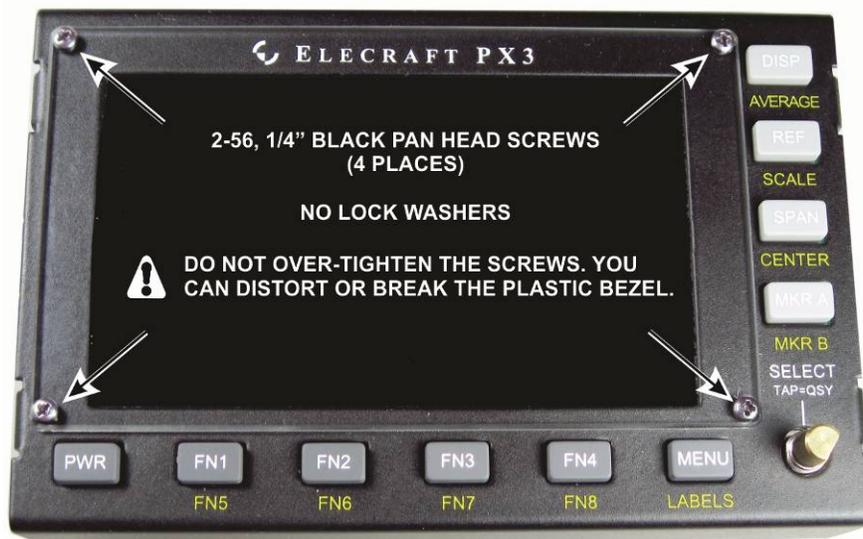
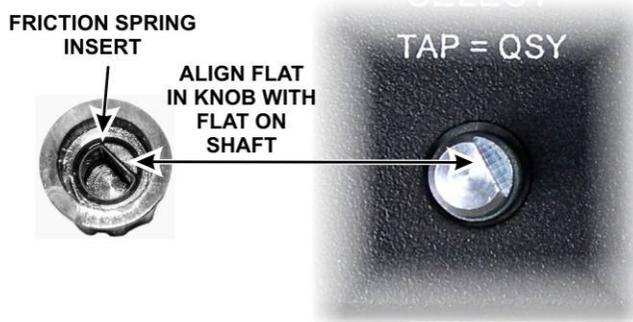

Figure 30. Front Panel PC Board and Bezel Mounted on Front Panel.
Figure 31. Installing the Knob.
□ Hold the front panel board face up so the LCD does not become dislodged and place the front panel and bezel over it as shown in Figure 30. Insert the front panel board from the back of the sheet metal, angling it as needed to fit past the narrow part of the panel. Secure the bezel as shown, threading the screws into the standoffs you installed earlier. **Do not over-tighten the screws. You can distort or break the bezel.**
□ Check to ensure the knob has its spring insert in place, then press it onto the shaft. Be sure the flat on the shaft is aligned with the flat surface in the knob (see Figure 31). The control has a built-in switch so do not be surprised to hear a click when you press the knob onto the shaft. The knob will stand above the surface of the front panel to allow room for the knob to move when operating the switch. Also, some side-to-side movement of the knob is normal in a control of this type with a built in switch.
To remove the front panel board and gain access to the LCD, remove the knob (see Figure 31 on page 43) and the four screws on the plastic bezel (Figure 30). That will free both the front panel board assembly and the plastic bezel. Take care not to scratch the bezel or lose the screws. You will need to tilt the front panel board assembly to remove it from the front cover sheet metal.